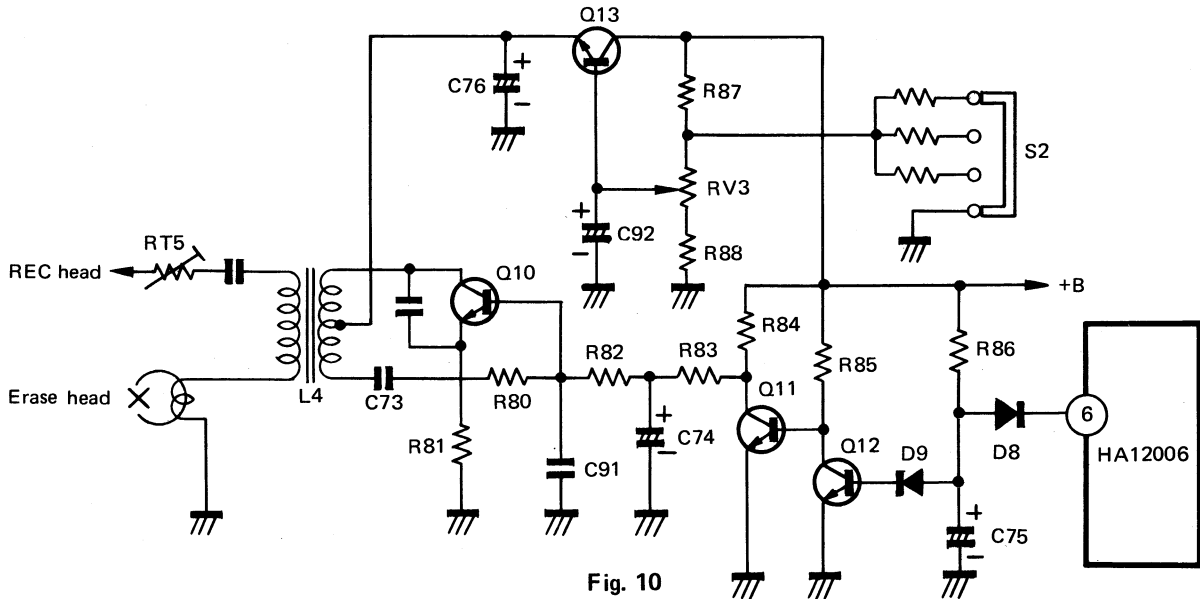

Fig. 10
Fig. 10 shows the bias oscillation circuit of this unit. When the unit is set to the REC mode, terminal ⑥ of IC3 is set to "High" level, base current flows to Q12 and Q12 turns ON. As a result, the base potential of Q11 drops and Q11 turns OFF. When Q11 turns OFF, base current is applied to Q10 via R84, R83, R82, DC bias is applied to Q10 and the bias oscillation circuit starts oscillation. Q13 is the transistor which performs the current control in the bias oscillation circuit; it is controlled by the bias current setting resistor between its emitter and collector. RV3 is the variable resistor for REC bias current fine control; adjusting this resistor, varies the REC bias current by approx. $\pm 10\%$ from its value at the click position.